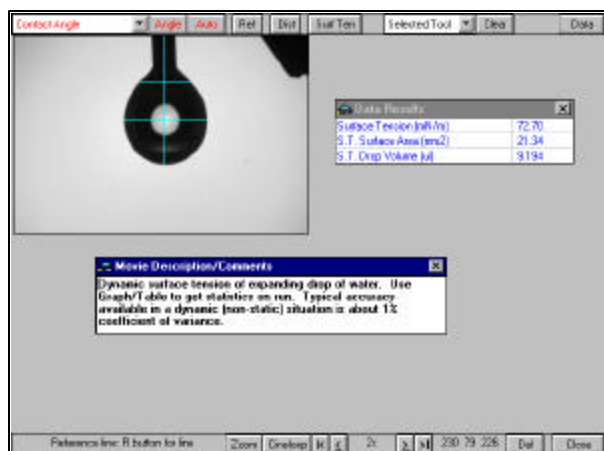

Figure 8. Pendant drop surface tension image.
**Surface Tension Measurement.** Demo\_7.mdb shows a pendant drop surface tension measurement of an expanding drop of water. The purpose of expanding the drop is to show there is no influence of drop size on the measurement, and also to illustrate the general resolution of the measurement, which is about 1/2 mN/m. Figure 8 shows the first image from this movie.